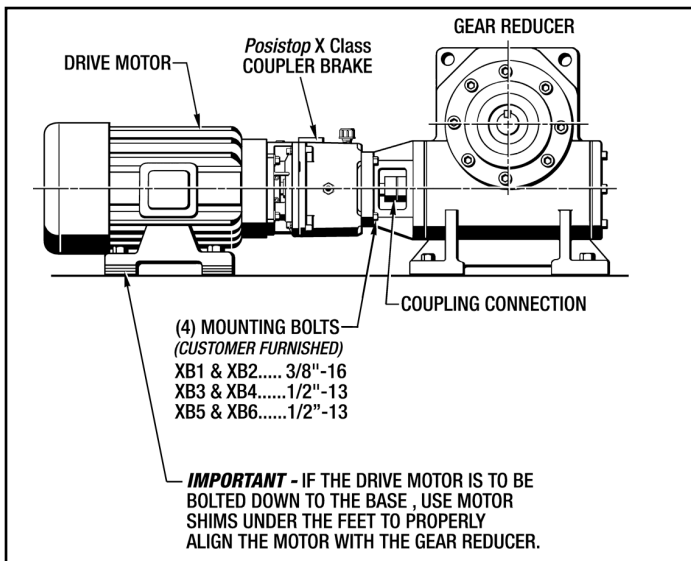

Figure 3 - Drive Motor and Gear Reducer Alignment
C. MOUNTING MOTOR AND COUPLER BRAKE TO A GEAR REDUCER (See *Figure 3*)
- If the Drive Motor is to be bolted down to the base, use motor shims under the feet to correctly align the motor with the gear reducer as shown in *Figure 3*. **This is very important so the Coupler Brake will not be pulled down or pushed up during operation.**